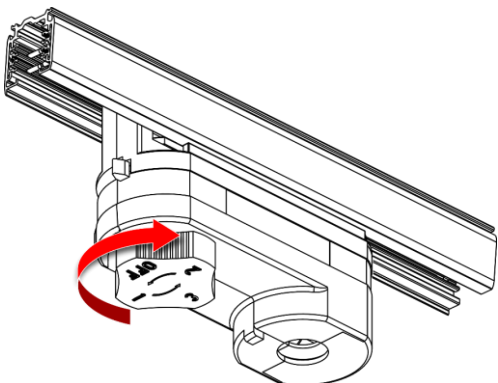

Fig. 10
- 06) Select the circuit with the **circuit selector (03)**. You can select 1, 2 and 3-phase circuit, as shown in Fig. 10.